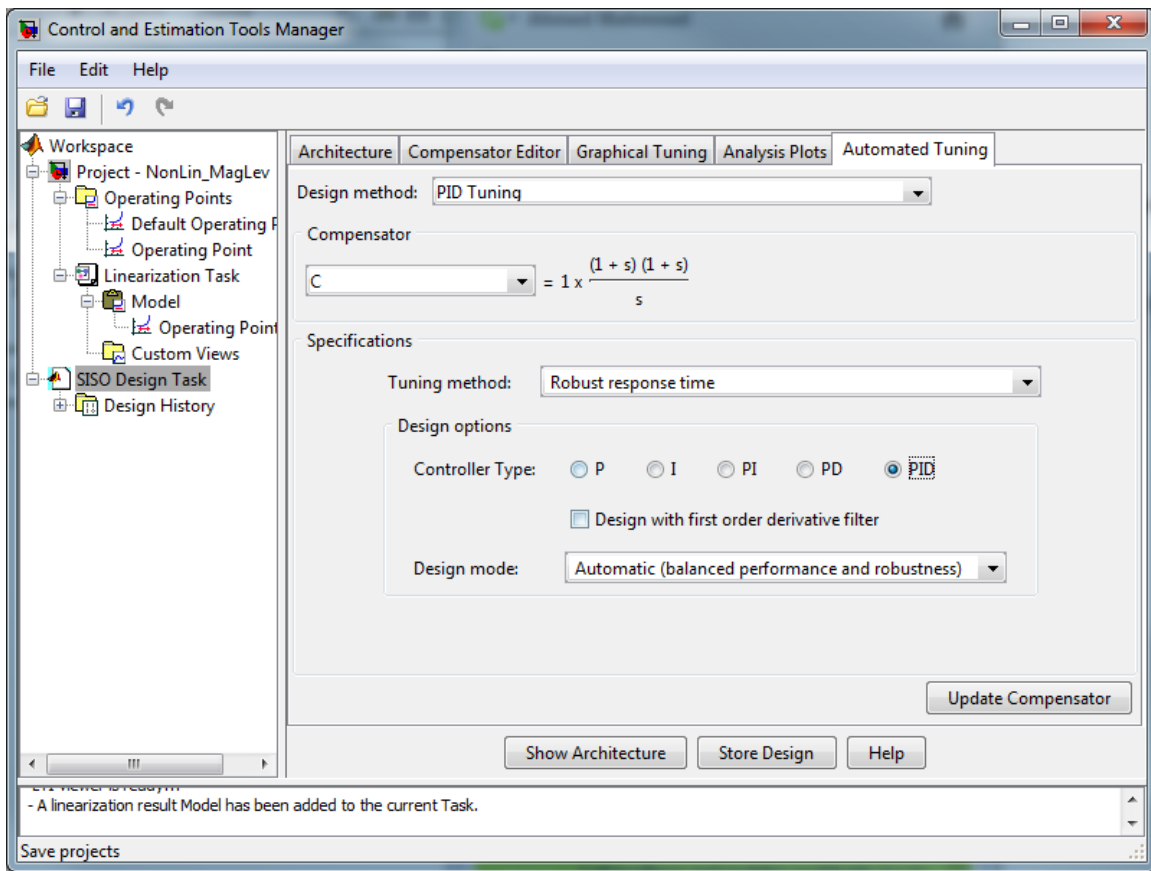

Figure 4 Automated Tuning of PID Controller
6. Use the Automated Tuning for PID to get initial values for your PID design (Figure 4).